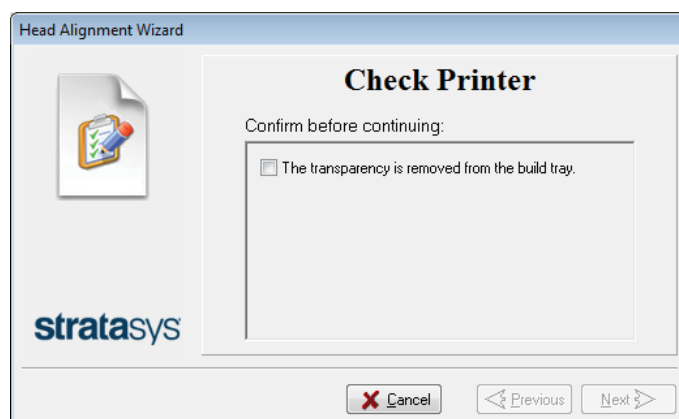

Figure 4-58 Head Alignment wizard—steps 9–11
11. In the wizard screen shown in Figure 4-58, select the *Transparency removed* check box, and click **Next**.